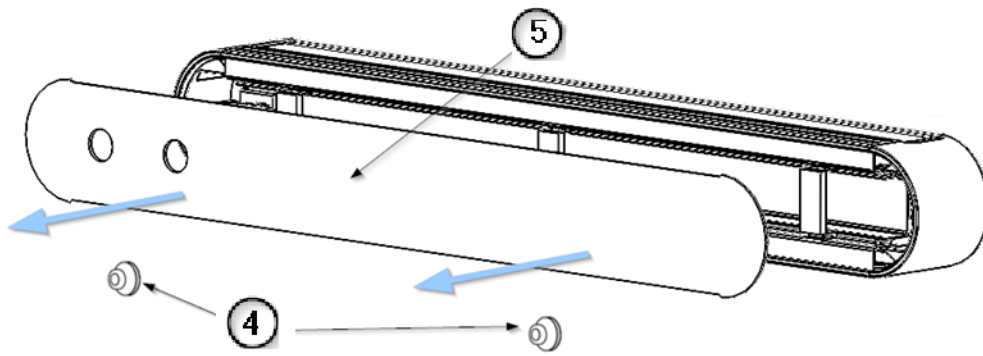

Fig. 3 Removal of the front panel
- Remove the M4 x 8 DIN 7505 screws ③ securing the front panel clamping tabs ②. The bracket ① is fixed to the front panel.
- Remove the front cover ⑤ using two suction cups ④ as shown in figure 3 to reveal the pre-installed gas inlets on the device.